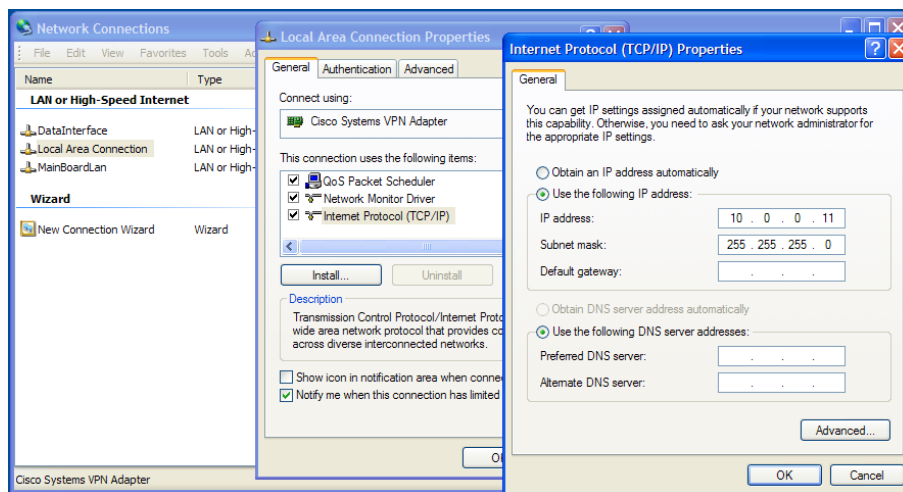

Figure 7.2 Setting static IP address 10.0.0.11 in Windows XP
1. Connect an Ethernet cable directly between the PC and the Ethernet control port of the CP524. Configure the PC to be on the same sub net as the CP524. See Figure 7.2.
The screen-shot in Figure 7.2 shows how to configure the network interface in Windows XP to communicate with the CP524 with factory default settings. The IP address/netmask